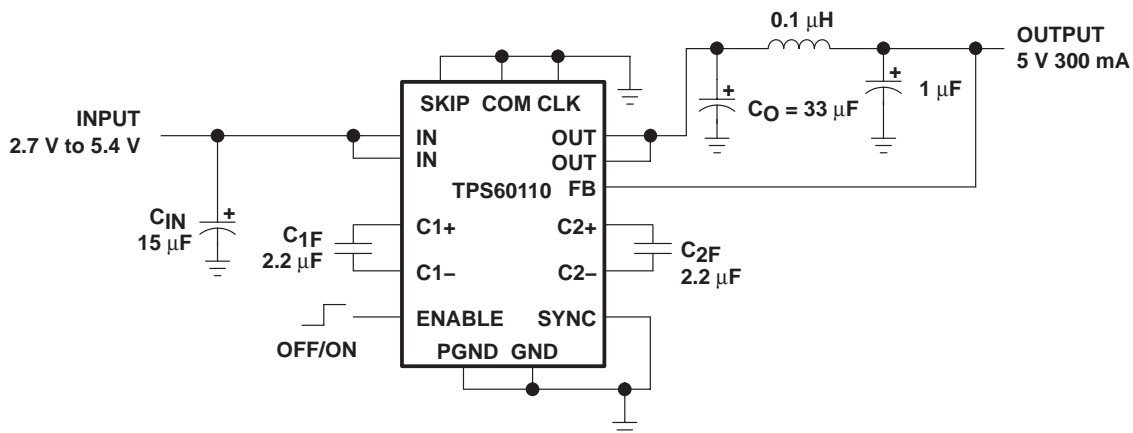

Figure 29. TPS60110 With LC Filter for Ultra Low Output Ripple Applications
For applications where extremely low output ripple is required, a small LC filter is recommended. This is shown in Figure 29. The addition of a small inductor and filter capacitor will reduce the output ripple well below what could be achieved with capacitors alone. The corner frequency of 500 kHz was chosen above the 300 kHz switching frequency to avoid loop stability issues in case the feedback is taken from the output of the LC filter. Leaving the feedback (FB) connection point before the LC filter, the filter capacitance value can be increased to achieve even higher ripple attenuation without affecting stability margin.